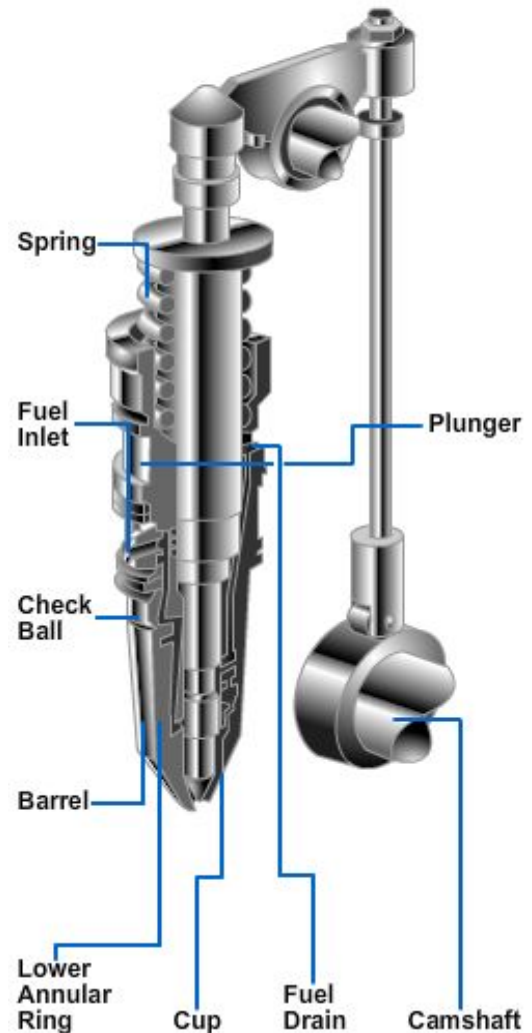

Figure 5-15 — Pressure-time injector operation.
- Metering (*Figure 5-15, View A*)--The plunger is just beginning to move downward and the engine is on the beginning of the compression stroke. The fuel is trapped in the cup, the check ball stops the fuel flowing backwards, and fuel begins to be pressurized. The excess fuel flows around the lower annular ring, up the barrel, and is trapped there.
- Pre-injection (*Figure 5-15, View B*)--The plunger has moved most of the way down, the engine is almost at the end of the compression stroke, and the fuel is being pressurized by the plunger.
- Injection (*Figure 5-15, View C*)--The plunger is almost all the way down, the fuel is injected out of the eight orifices, and the engine is on the end of the compression stroke.
- Purging (*Figure 5-15, View D*)--The plunger is all the way down, injection is complete, and the fuel is flowing into the injector, around the lower annular groove, up a drilled passageway in the barrel, around the upper annular groove, and out through the fuel drain. The cylinder is on the power stroke. During the exhaust stroke, the plunger moves up and waits to begin the cycle all over.